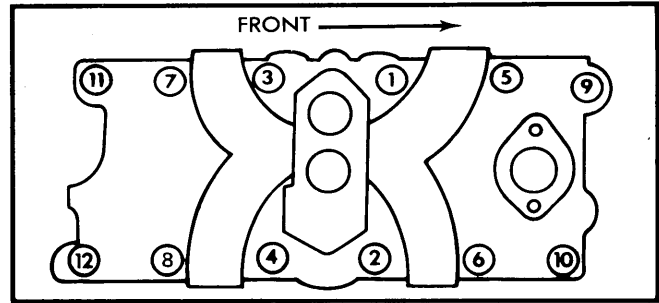

Fig. 1 Intake Manifold Tightening Sequence
2) Position intake manifold on engine, inspect seals for correct positioning and install manifold attaching bolts. Tighten bolts one through four to 25 ft. lbs. in sequence shown. Tighten same four bolts to 40 ft. lbs. in sequence. Now tighten remaining bolts to 40 ft. lbs. as shown in Fig. 1.